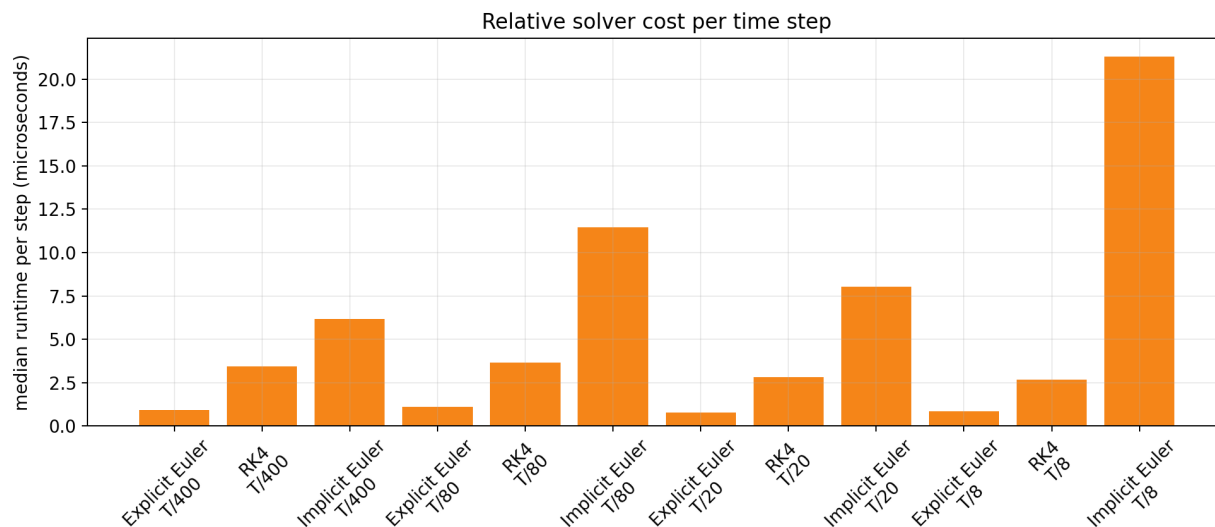

Figure 4: Median runtime per step over repeated solver calls.
Figure 4 shows median runtime per time step. The y-axis is measured in microseconds per step. This normalizes the cost so that methods with different numbers of total steps can be compared fairly.
6.12 Presentation explanation for Figure 4